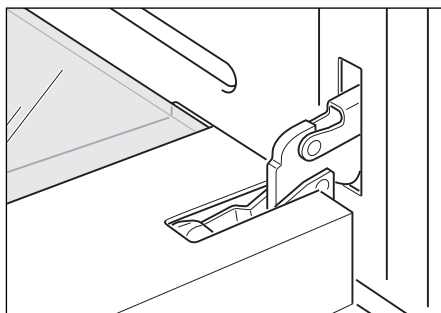

Fig. 21a
- Fully open the oven door (Fig. 21a).
- 1 Make sure the door is locked open (see Figs. 21a - 21c).